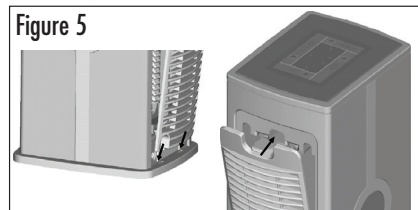

Figure 5
5. Install the rear grill back onto the unit and securely latch it in place. (see Figure 5).
- Reinstall the back grill. (see Figure 5).